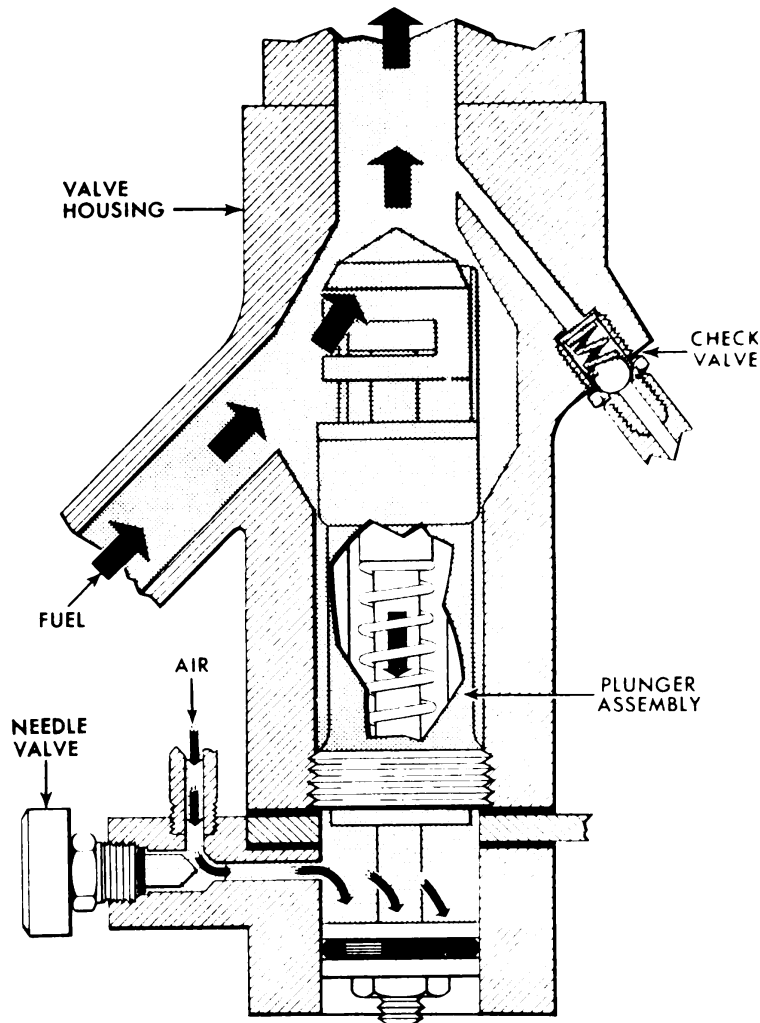
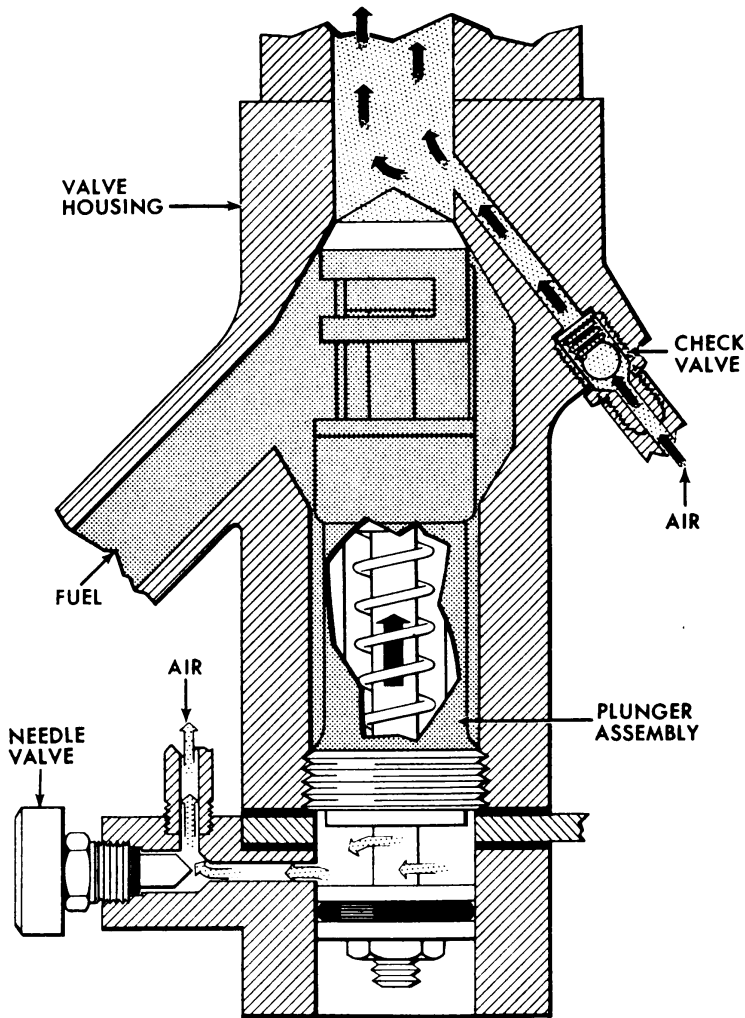

Fig. 91. Operation of discharge valve when trigger is pulled.
Fig. 92. Operation of discharge valve when blow-out lever is depressed.
a. General. This assembly consists of a discharge valve body, discharge valve plunger assembly, blow-out check valve, and air cylinder assembly. When the trigger is operated, the discharge valve functions as shown in figure 91. When blow-out lever is depressed, the valve functions as shown in figure 92. The discharge valve body is mounted on top of the support projecting from the distributor plate, and the air cylinder assembly is mounted on the bottom of the support. The valve body and the air cylinder assembly are secured to the support by four